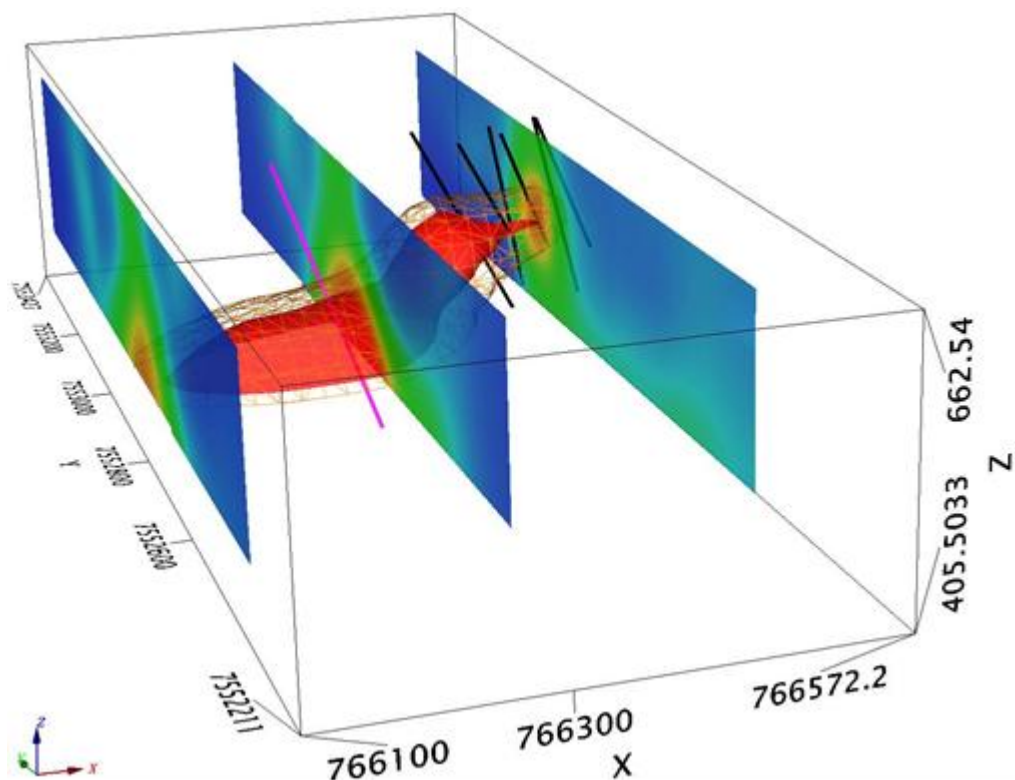

Figure 3. 3D view of the IP data at Mount Hardy showing and the strong chargeability wireframe and the planned drilling.
The location of holes 13MHDDH001 and 13MHDDH002 is shown in Table 1 and on Figure 2. Significant results are outlined on Table 2. Three sections were drilled at the Mount Hardy Prospect to intersect a high chargeability zone identified by the recent Induced Polarisation (IP) survey, (see Figure 3). This report discusses results for the two holes drilled on the western line. Holes are all drilled towards the SSE (azimuth 150 degrees) at 45-60 degrees dip.
Figure 3 shows the high chargeability wireframe outlined from the IP data on the Mount Hardy prospect viewed from the south. The body extends through the strike extent of the IP survey data, some 550 metres along strike, is open at depth (below 150 metres) and to the west, and plunges at 25 degrees to the WSW. This was the focus of TNG's drilling with results shown in figure 4.
The down-plunge position of the IP chargeability anomaly to the west is highly anomalous, has never been drill tested, and will be tested by the remaining hole to be drilled at the Mount Hardy Prospect (Magenta Drill Trace, Figure 3).